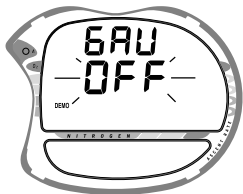

Fig. 77 - Set Demo Gauge
- Press and release the Advance (Front) button to access SIM MODE. The graphics **GAU** and **DEMO** will appear with **OFF** (or ON) flashing (Fig. 77).